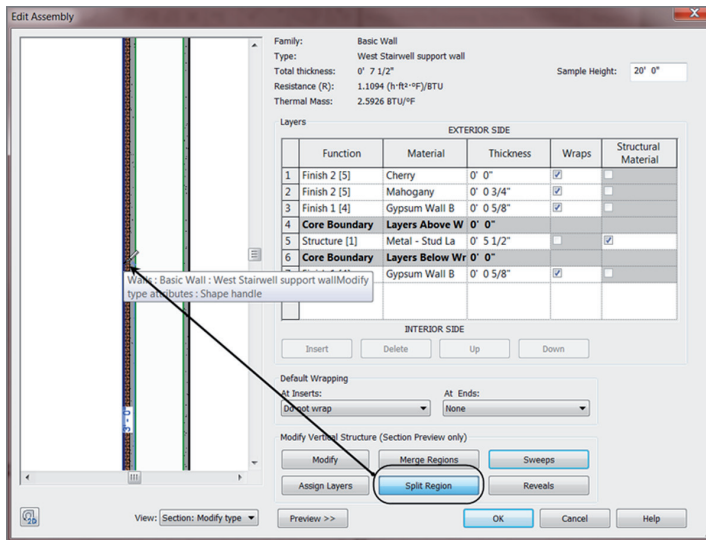

FIGURE BC1.6: Cutting the plywood at a specific height
6. Click the Split Region button, as shown in Figure BC1.6.
- When you see 3'-0" (900 mm) in the temporary dimension, pick the point as shown in Figure BC1.6. *Do not press Esc when you're finished!* If you place the split in the wrong place, click the Modify button and then select the split line you just created. You can then click the dimension field to edit the location. There is also a direction arrow that specifies whether the split is set from the bottom up (what you just did) or from the bottom down.